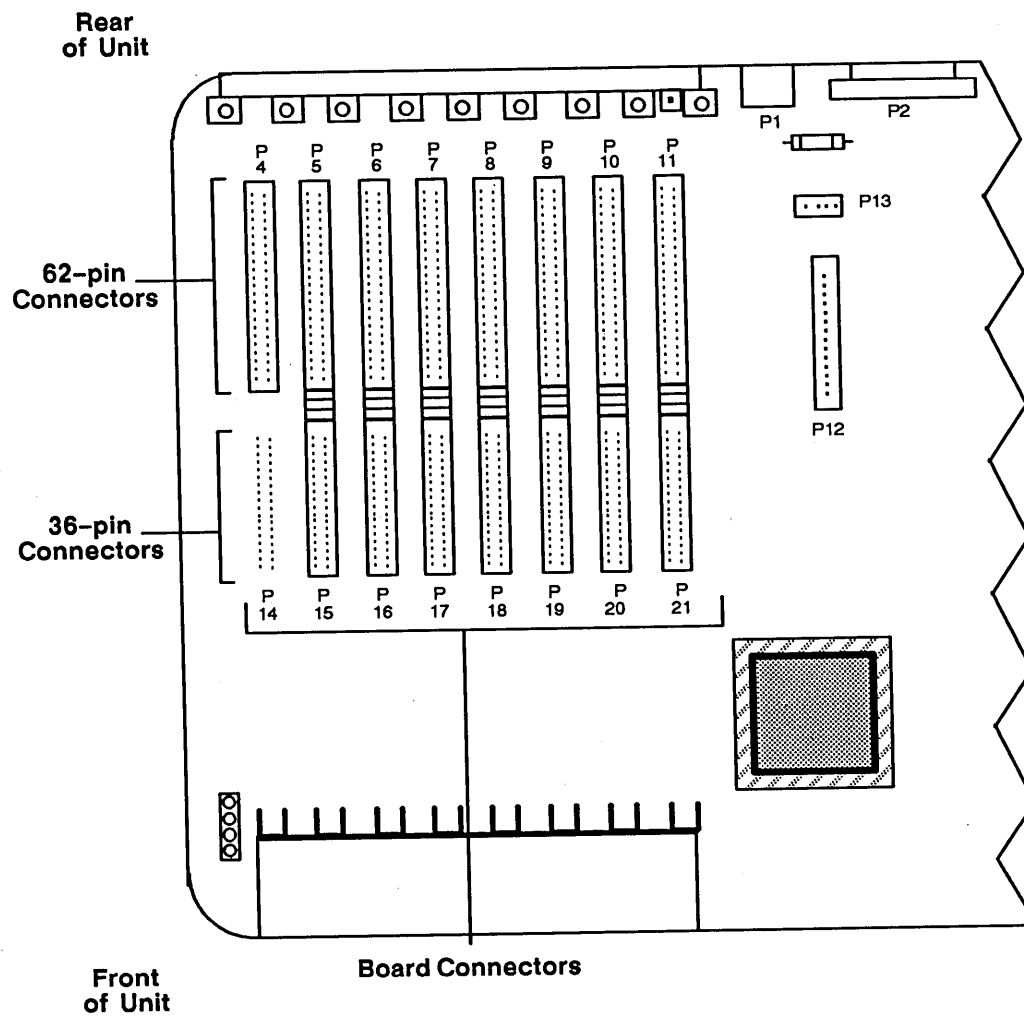

Figure 2-2. DS3000 and DS4000 Bus Connectors (Newer Version)
**NOTICE:** In two positions on the AT-compatible bus, the 36-pin connector is not present (connectors P14 and P15). These positions can support only 62-pin IBM PC/XT-compatible bus adapters, servicing 8-bit data transfers. Newer DS3000 systems use P15 with P5 as a seventh AT-compatible slot. In these systems, P4 is the only XT-compatible slot (see Figure 2-2).
Figure 2-2 shows the location of the AT-compatible bus connectors on newer versions of the *Domain System*, when there is one XT-compatible slot.